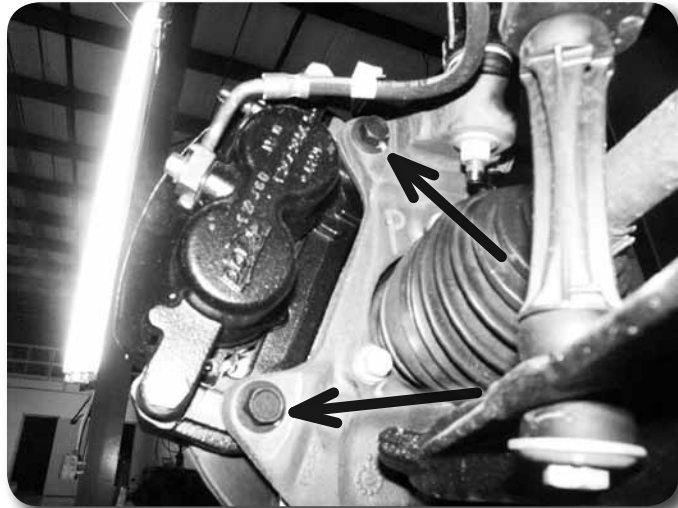

Figure 3
8. Remove the two brake caliper mount bolts and remove the caliper assembly from the knuckle **Figure 3**. Hang the caliper securely out of the way. **DO NOT** hang the caliper by the brake hose. Save caliper bolts.